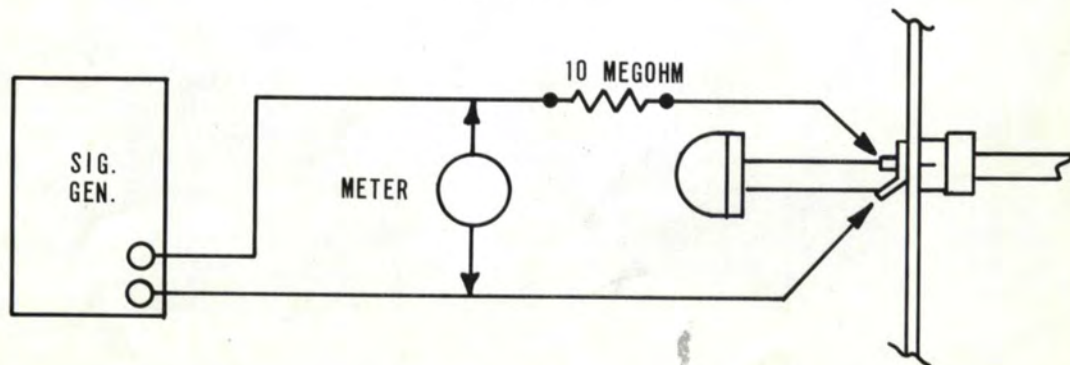

FIG. 5-10
- 1) Program Gain - Connect equipment as shown in Figure 5-10 across left head cable (leave head connected). Set signal generator at 400 Hz and 7.4 V as read on meter. Adjust Program Gain-L to read "0" dB or 0.78 V. on left PGM output. Be sure it is loaded with 600 ohms. Meter may be moved from input to output. Repeat for right channel on stereo models.
- 2) Primary Cue - Connect equipment as shown in Figure 5-10 across cue head cable. Set signal generator to 1 kHz and 3.20 V read on meter. Adjust R-7 (PRI CUE) on the 1 kHz Primary Cue board to barely trip and "cue-out" at this input level.